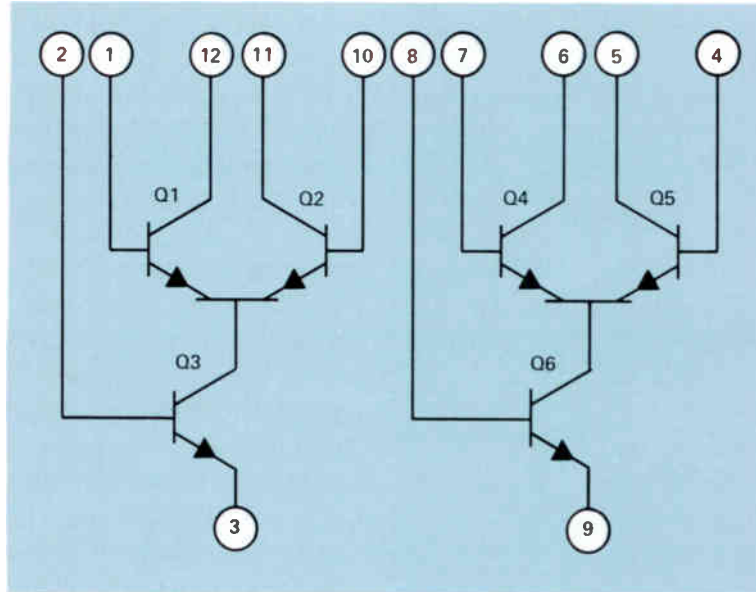

Figure 17. Schematic of a dual differential amplifier, type CA3026 IC.
The schematic diagram of an RCA type CA3026 IC is shown in Fig.17. It contains two differential amplifiers, each with a constant-current sink. Notice that there are no resistors or other parts in the IC except the transistors used in the differential amplifiers and the transistors used as current sources. The emitter of Q6, which is connected to terminal 9, is also connected to the metal case of the IC and to the IC substrate. Also notice that there are no circles drawn around the transistors. It is common practice to omit the circles around the transistors and diodes in the schematics of ICs. This indicates that they are not discrete or separate components, but are a part of an integrated circuit.
- 10 In the ICs shown in Fig.17, which transistors are constant-current sources?
- 11 What type of circuits are contained in the ICs shown in Fig.17?